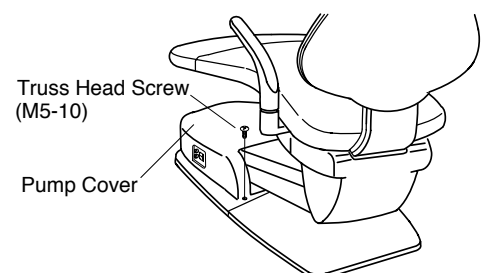

Fig.3-7-8 Fixing Pump Cover
(11) Fix the pump cover with two truss head screws (M5-10). **(Fig.3-7-8)**